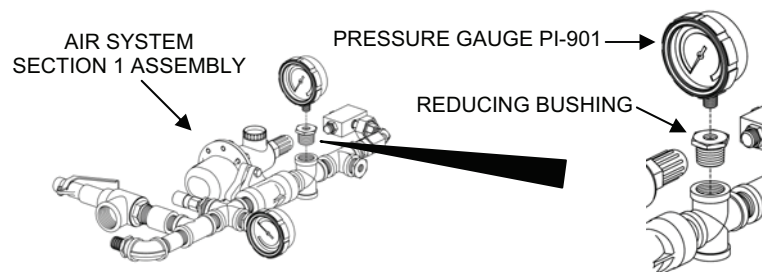

Figure 9. Pressure Gauge PI-901.
2. Remove Pressure Gauge PI-901 from its reducing bushing in the Air System Section 1 assembly (see Figure 9).
4. Thread new Pressure Gauge PI-901 into its reducing bushing in the Air System Section 1 Assembly and tighten in the position shown in Figure 9.